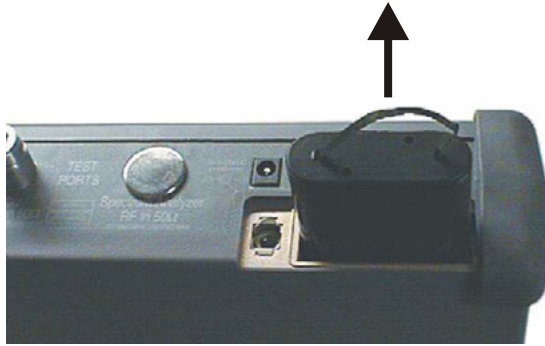

Figure 2-4. Removing the Battery
4. Grasp the battery lanyard and pull the battery straight up and out of the unit, as illustrated in Figure 2-4.